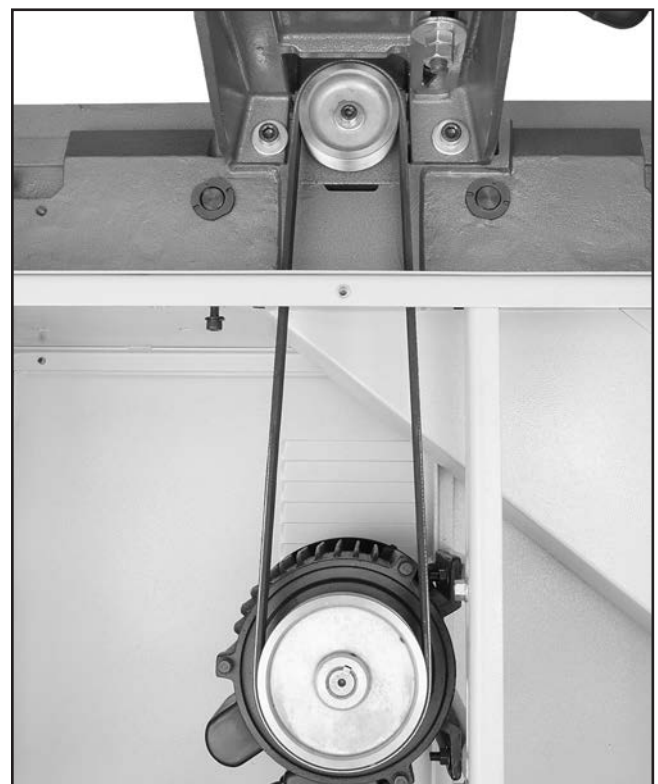

Figure 18. Poly V-belt installed.
21. Wrap poly V-belt around cutterhead and motor pulleys, as shown in **Figure 18**. Make sure ribs of V-belt are seated in pulley grooves.